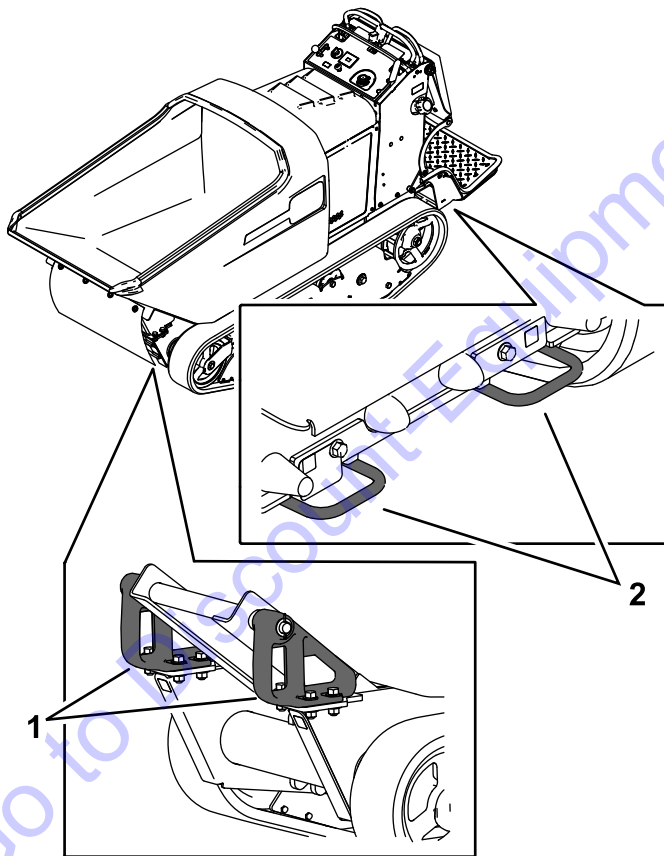

Figure 14
6. Use the metal tie-down loops on the machine to securely fasten the machine to the trailer or truck with straps, chains, cable, or ropes (Figure 14).